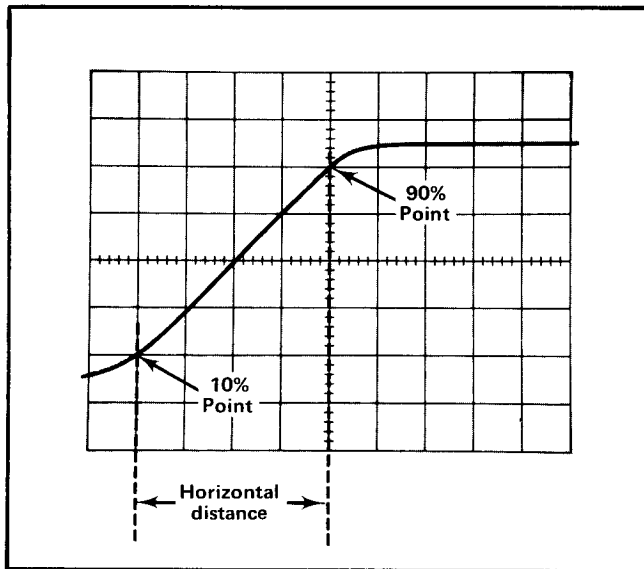

Fig. 2-20. Measuring risetime.
8. Adjust the horizontal POSITION control to move the 10% point of the waveform to the first graticule line. For example, with a five-division display as shown in Fig. 2-20, the 10% point is 0.5 division up from the start of the rising portion.
Example. Assume that the horizontal distance between the 10% and 90% points is four divisions (see Fig. 2-20) and the TIME/DIV switch is set to 1 μs with the MAG switch set to X10.